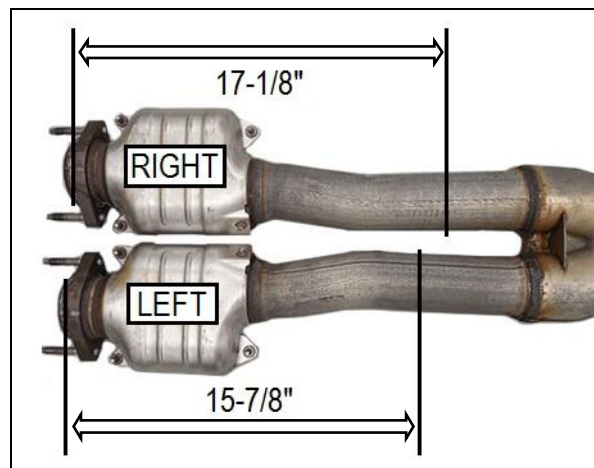

Figure 6
1. Lay the factory X-pipe on the ground with the heat shields facing up. Mark the catalytic converters LEFT and RIGHT. Cut the catalytic converters from the factory X-Pipe using a reciprocating saw. Cut the pipes at the locations listed in **Figure 6**.